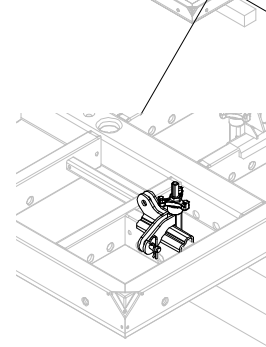

Fig. A11.01b
4. Depending on the extension variant, mount Kicker on the Brace Connector (9.2), see B1 or B2. (Fig. A11.01b)